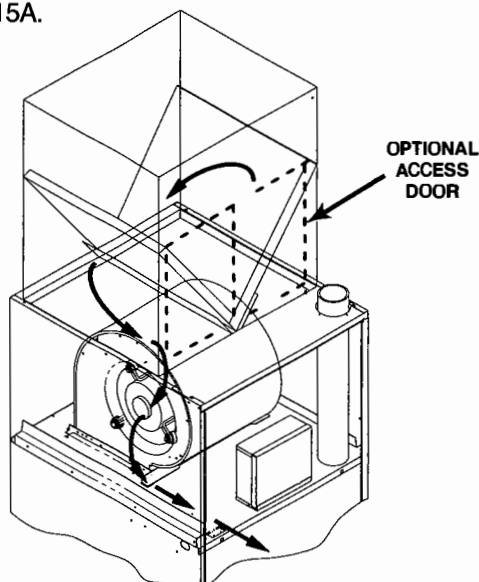

Fig. 15A
3. Remove the left filter by reaching to the left side of the blower, pushing the filter up slightly to remove it from the filter rack, and pulling it down to the left of the blower and out the blower door. Repeat with the right filter. See Figure 15A.
6. To reinstall the filters, first **MAKE CERTAIN THE AIRFLOW DIRECTION ARROW POINTS TOWARDS THE FURNACE**. Then insert the filters from the left side of the blower. Starting with the right filter, push the filter into the plenum so that the bottom of the filter rests in the filter rack and the upper edge rests against the side of the plenum. Repeat with the left filter. See Figure 15A.